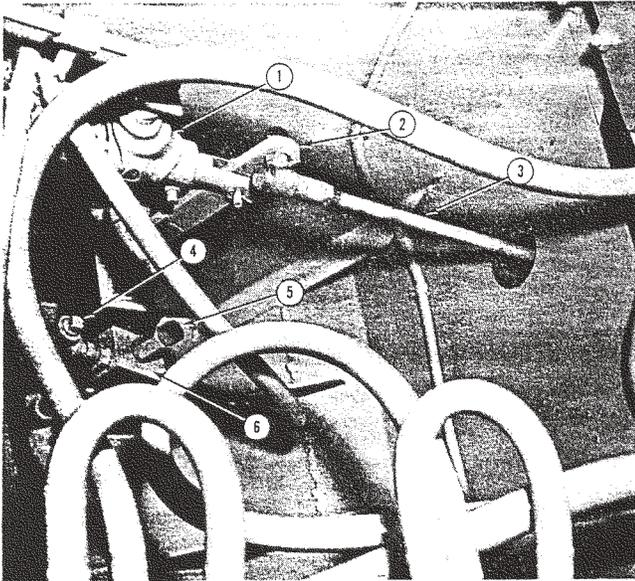

Figure 22
A. With engine off remove pressure check tee plug and install a 1/2 inch to 1/4 inch pipe thread reducing bushing (Etnyre P/N 0116524). Next install a 0-3000 P.S.I. pressure gauge in bushing. (Figure 22).
B. Disconnect power gate actuator at pivot arm. (Figure 22).